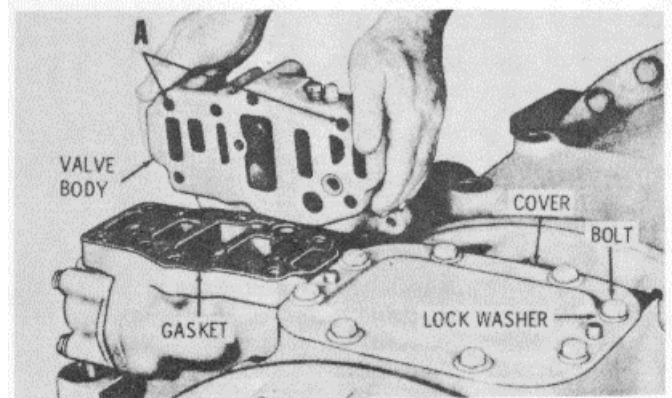

Figure 15-189. Installing Main-Pressure Regulator Valve Body Assembly
18. Install the power takeoff cover gasket, and cover (Figure 15-189). Secure with eight 7/16-14 x 7/8 inch bolts and lockwashers. Tighten the bolts to 42-50 lb ft (57-67 N.m).
19. Install the regulator valve body gasket (Figure 15-189). Install the main-pressure regulator valve body assembly. Secure the valve body by installing two 7/16-14 x 3-1/2 inch bolts with lockwashers into holes marked A on Figure 15-189. Secure the assembly with five 7/16-14 x 7 inch bolts 2 and two 7/16-14 x 4-1/2 inch bolts with lockwashers 3 and 5. Tighten bolts 2 and 4 to 42-50 lbft (57-67 N.m).